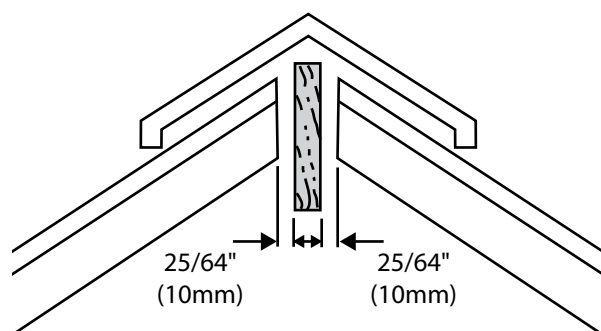

Figure 4
6. If a ridge tree or ridge batten is present, trim the Dry Verge using a fine-toothed hacksaw to leave a $25/64"$ (10mm) gap either side (as shown in Figure 4).